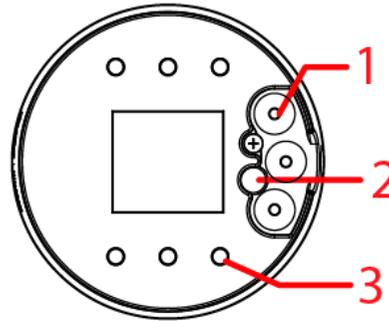

Figure 2
A. Remove the required grommets (Fig. 2) from the mounting base, fit the grommets to the cable(s) and then refit into the mounting base.
B. Mark & drill four holes that correspond to the mounting holes on the camera base, (Fig 2).